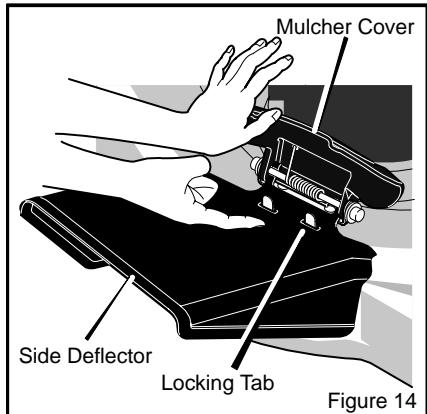

Figure 14
3. Lower the side deflector. Make sure the locking tab goes through the slot in the side deflector (Figure 14).